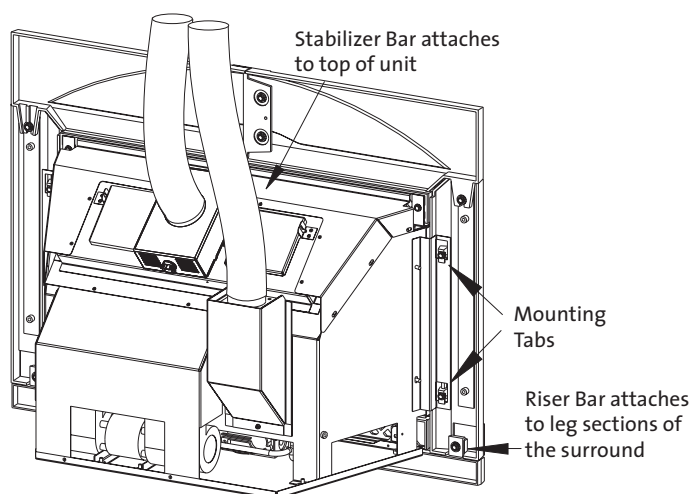

Figure 43. Riser Bar installation.
6. Secure the two sections of the riser bar together with a washer and bolt and bolt the assembled riser bar to the surround legs as shown in fig. 43.
7. Slide the surround down into the mounting holes. Be sure all four mounting tabs engage securely with the adjacent bracket holes. See fig. 43.